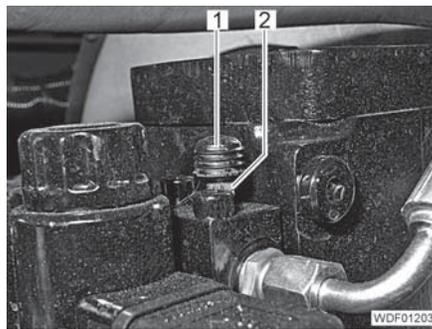

Fig. 141 Variable displacement pump venting nipple
- Pull off the protective cap (Fig. 141,1).
- Attach the transparent hose to the venting nipple (Fig. 141,2).
- Unscrew the venting nipple (Fig. 141,2) by 1/2 a turn.
- Tighten the venting nipple (Fig. 141,2).